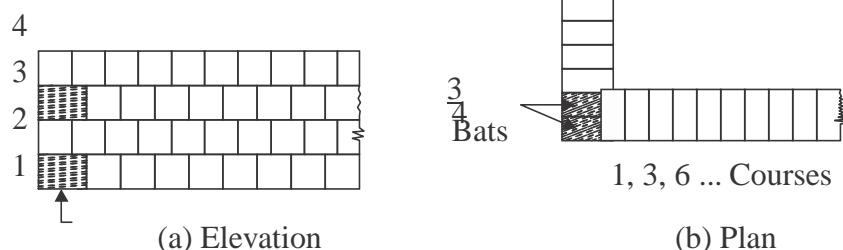

Fig. 2.6.2 Header
**2. Header Bond:** A header is the shorter face of the brick as seen in the elevation. In a standard brick it is 90 mm × 90 mm face. In header bond brick masonry all the bricks are arranged in the header courses as shown in Fig. 2.6.2. This type of bond is useful for the construction of one brick thick wall